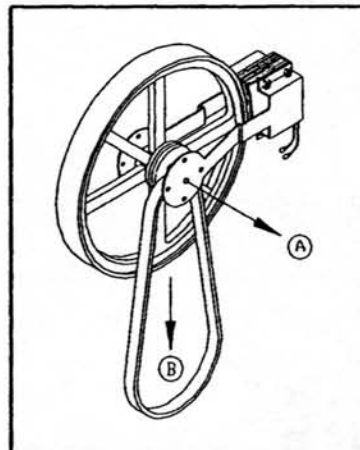

Fig.13-3
4. Lever the BRACKET OF THE ELECTROMAGNET to remove the poly-V belt (see Fig. 13-3).